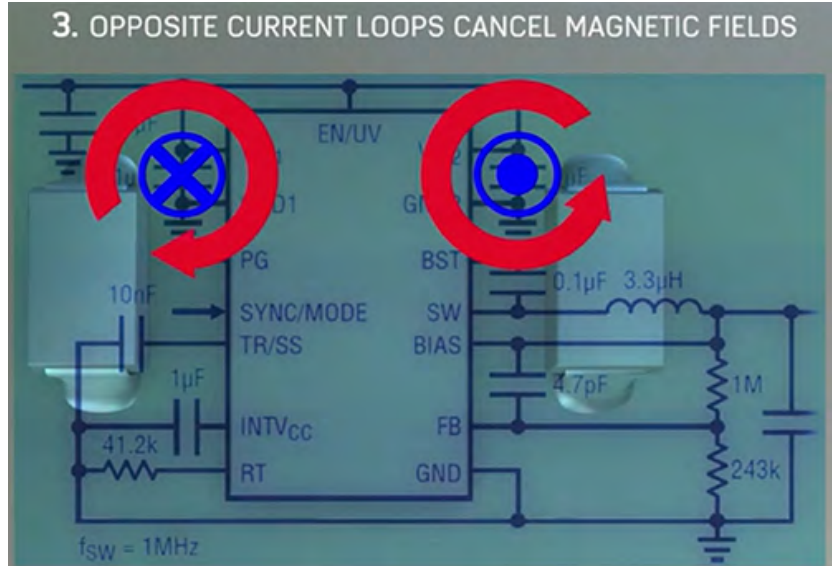

Figure 7: An internal layout with current loops in opposite directions also cancels undesired magnetic fields. (Image source: Analog Devices)
The MAX16161 and MAX16162 can be used as simple power supply sequencers (Figure 7). After the output voltage of the first regulator becomes valid, the MAX16161/MAX16162 insert a delay and generate the enable signal for the second regulator after the reset timeout period. Because the MAX16161/MAX16162 never de-assert reset until the supply voltage is correct, the controlled supply is never incorrectly enabled.
Figure 7: A circuit using the MAX16161 can be configured so the device not only ensures glitch-free power-up but also manages power-rail sequencing between two rails. (Image source: Analog Devices)
- Technique #3. Finally, the use of opposite current loops to cancel magnetic fields (Figure 7).